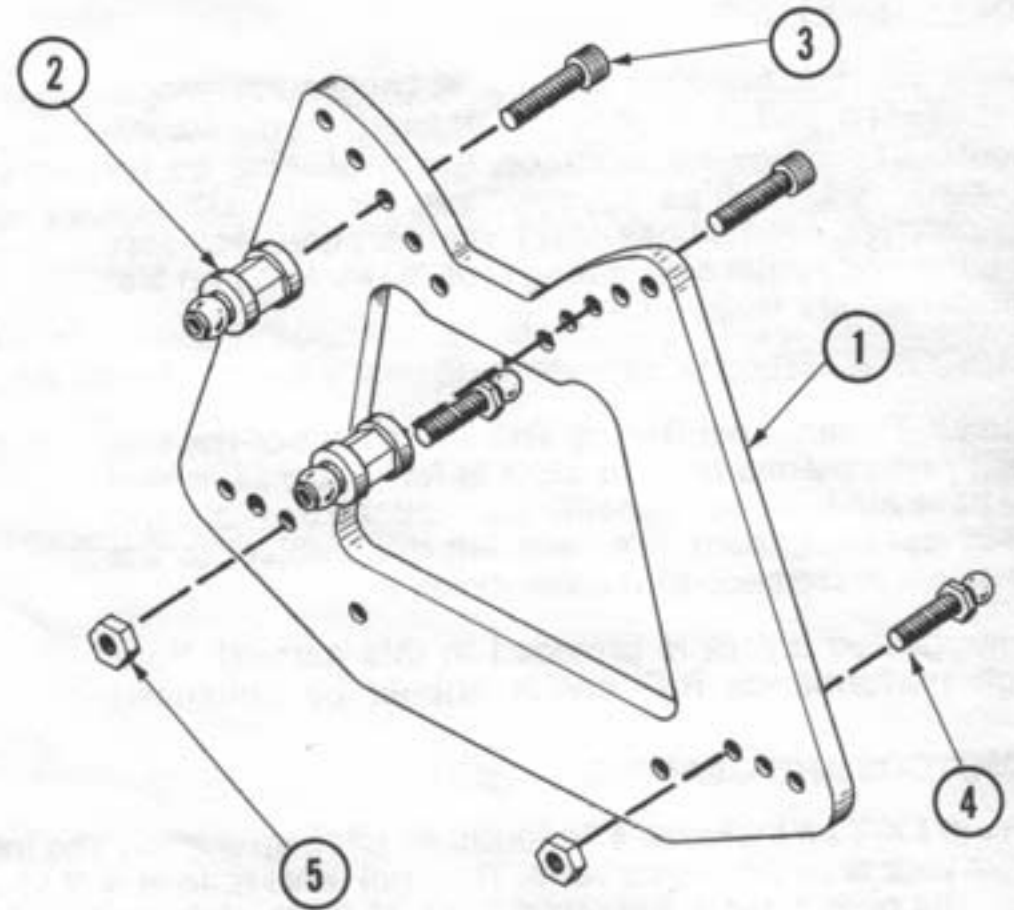

Figure 1
1. Locate the front shock tower (1) and attach the shock mounts (2) to the center hole on the top of the tower using 2, 4-40 x 7/8" cap head screws (3). Fig.1
2. Thread in a 3/8" ball stud (4) into the inside hole of the three holes at the bottom of the shock tower (1). These go on the opposite side of the shock mounts (2). Secure the ball studs (4) with a 4-40 nut (5). Fig 1
2. Slide internal pinion gear (46) down shaft (45) so pin interlocks with groove in gear (46) Fig. 1
3. Secure gear (46) onto shaft (45) using 3/16" E-Clip (31). Attach another E-Clip (31) into groove on shaft (45) away from the threads. Now attach the 3/16" C-Clip (47) in the groove on shaft (45) near the threads. Fig. 1